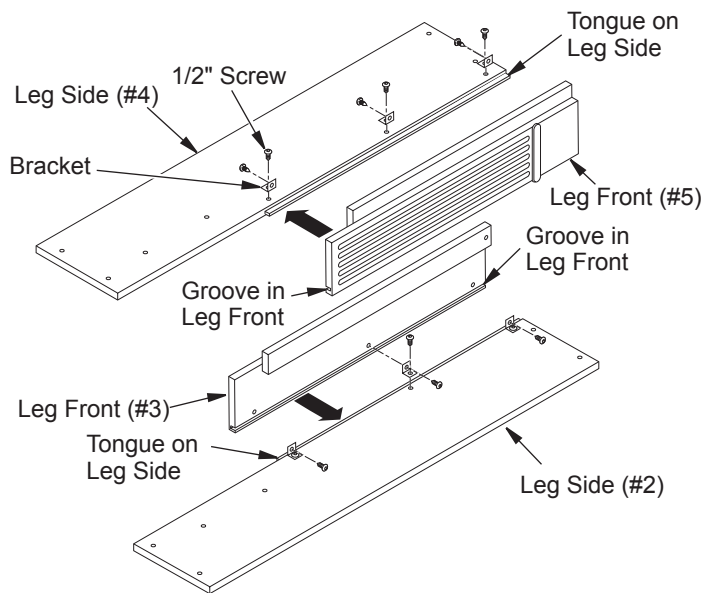

Figure 1 - Right and Left Leg Assemblies
1. Lay right side panel (#2) face down on a soft surface to avoid marking finish. Attach three brackets with 1/2" screws to bottom of right front leg (#3) leaving screws slightly loose. Face brackets out toward tongued side (see Figure 1, page 2). Place right front leg over right side (#2) matching groove in leg to tongue on side, as shown in Figure 1 on page 2, matching trim pieces on side with trim on front. Align threaded holes with brackets on side. Start three 1/2" screws through brackets. Align bottom of side and leg assembly so they are flush with each other. Hold these pieces securely in alignment while tightening (but not over tightening) screws.